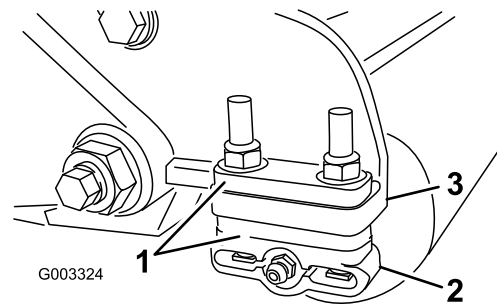

Figure 10
1. Adjust the rear roller brackets (Figure 10) to the desired height of cut range by positioning the required amount of spacers below the side plate mounting flange (Figure 10) per the HOC Chart.